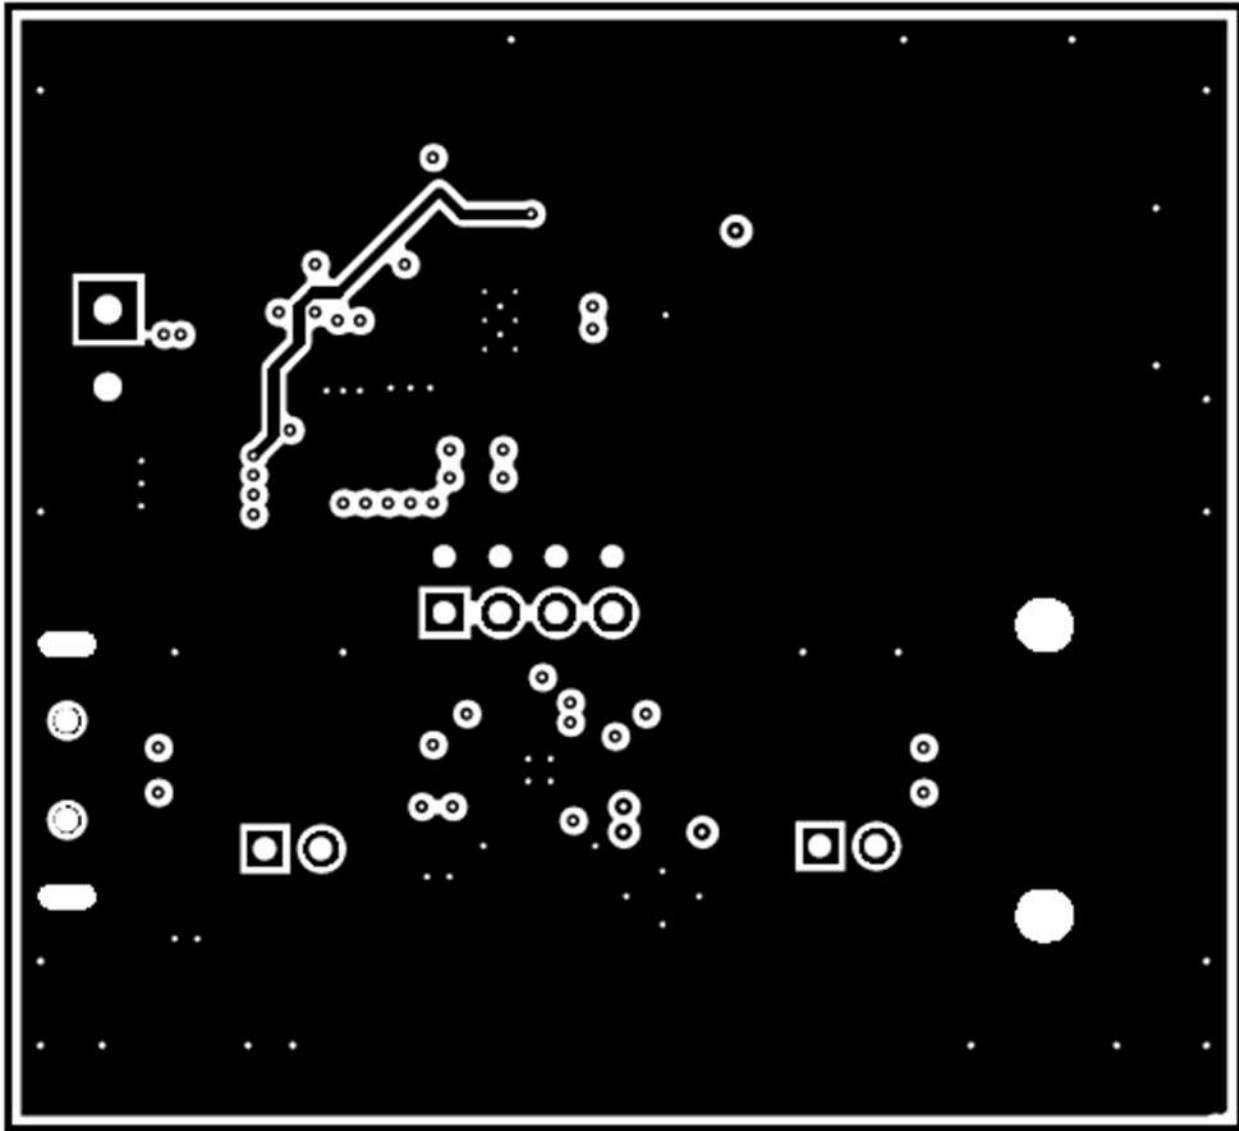
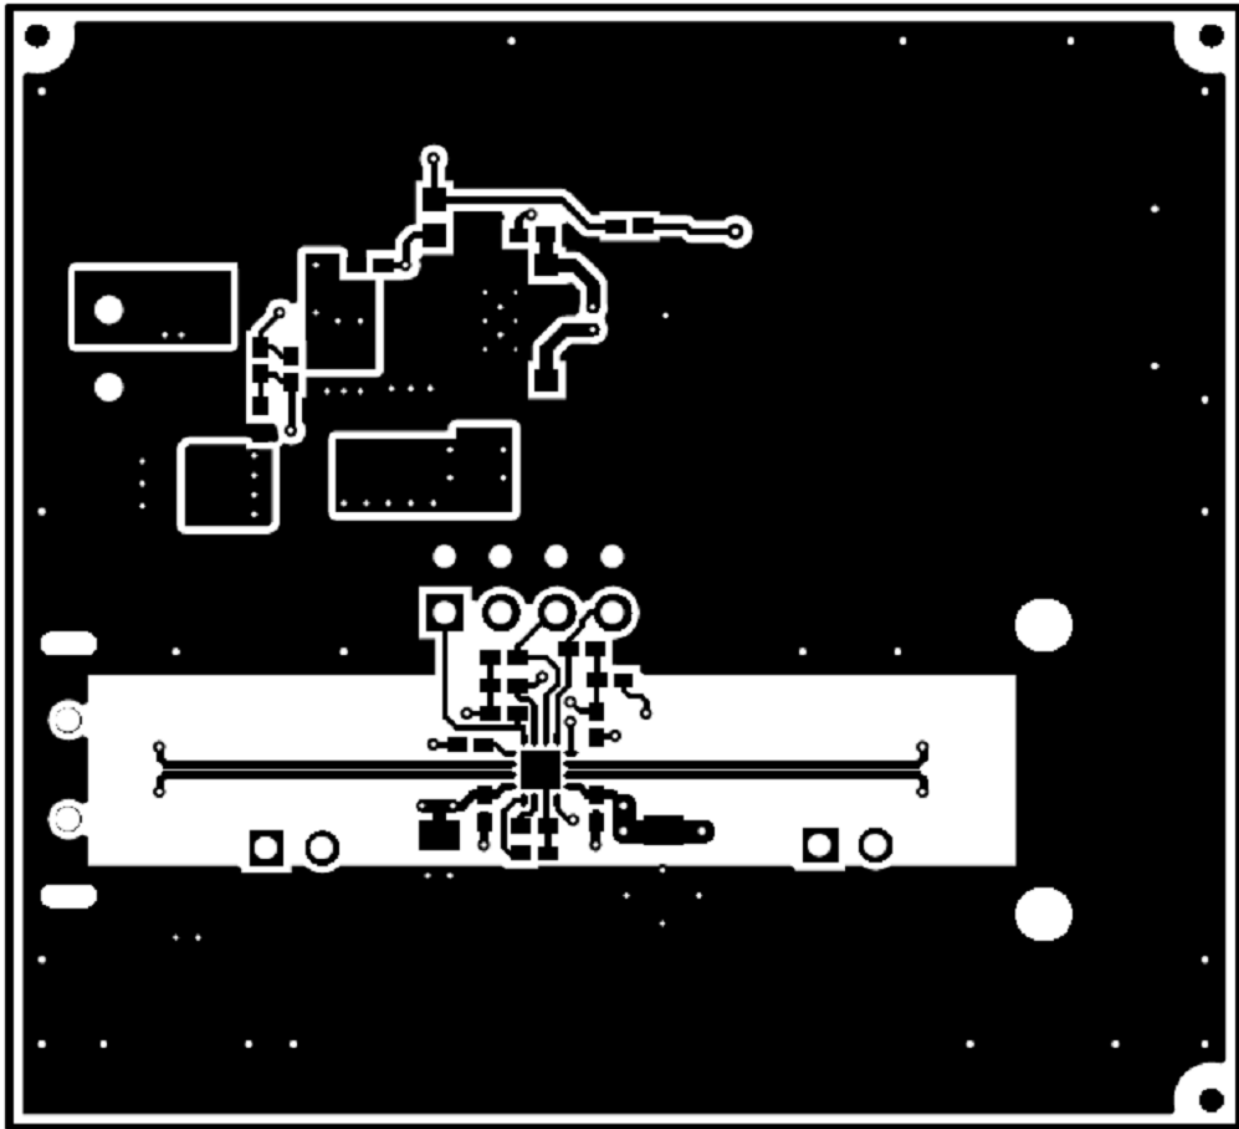

Figure 6. Layer Three Routing
Figure 7. Bottom Side Routing
- **DP-OUT/DM-OUT, DP-IN/DM-IN traces:** Route these traces as controlled impedance differential pairs per the USB-2.0 specification. Minimize the use of vias in the high speed data lines. Figure 7 provides a good signal routing example for the high-speed data traces. In this example, the data pairs are routed as edge-coupled microstrips with nominal differential impedance of 90 Ω . The reference plane is tied to GND and is shown in Figure 6. Ensure that the reference plane is void of cuts or splits above the differential pairs to prevent impedance discontinuities.